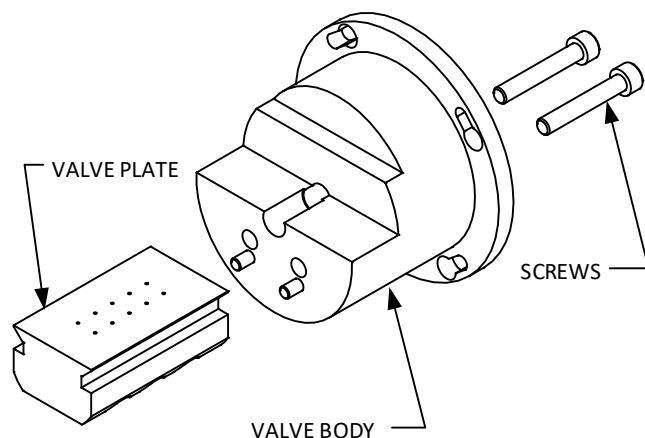

Fig. 7.16. Installing the Valve Plate on the Valve Body
1. Clean the inside counter-bored holes of the Valve Body to remove contamination and old sealant (see Figure 7.16).